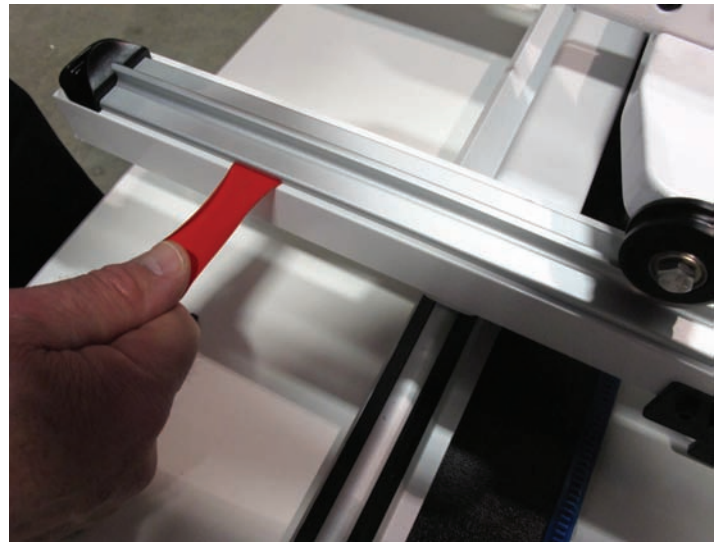

Figure 25
Step 14: Leave the machine on the carriage track and pull the tape backing out from the right-side track (Figures 25 and 26).